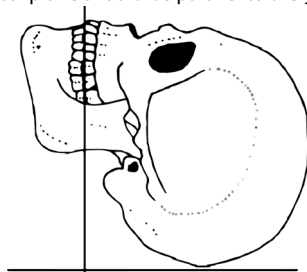

Figure 1
- **Please take steps to minimize artifact from the presence of metal** (such as non-fixed metal prosthesis or jewelry). Image artifact caused by metallic implants can obscure anatomy of interest. It is useful to position the patient so that the occlusal plane is parallel to the image plane (see Figure 1). This can help to limit artifact from metallic dental restorations to the region around the teeth. Non-metal dentures may be worn during scan.